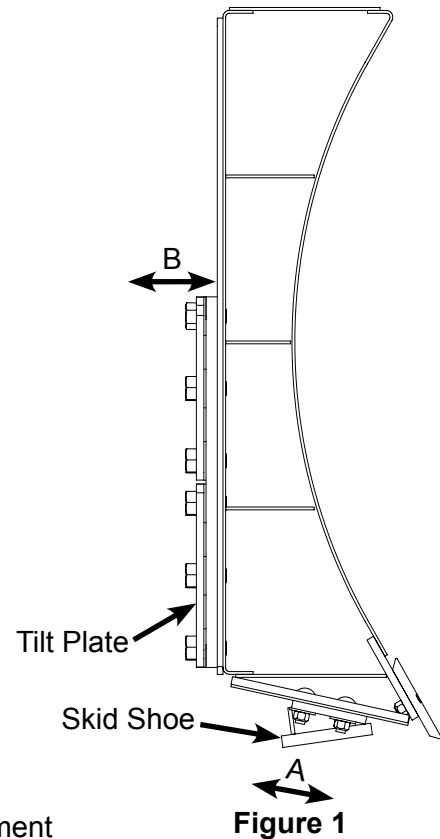

Figure 1
2. Loosen nuts and set skid shoe depth by sliding the shoe back and forth in direction 'A' shown in Figure 1.
2. Add or remove washers as needed to adjust tilt-way clearance to have 1/16" - 1/8" of clearance in direction 'B' shown in Figure 1.